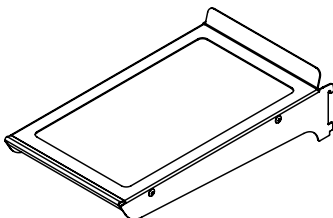

Figure 33
(2) frame and flat glass cantilever shelves. (See Figure 33).
(1) half width flat glass cantilever shelf. (See Figure 33).